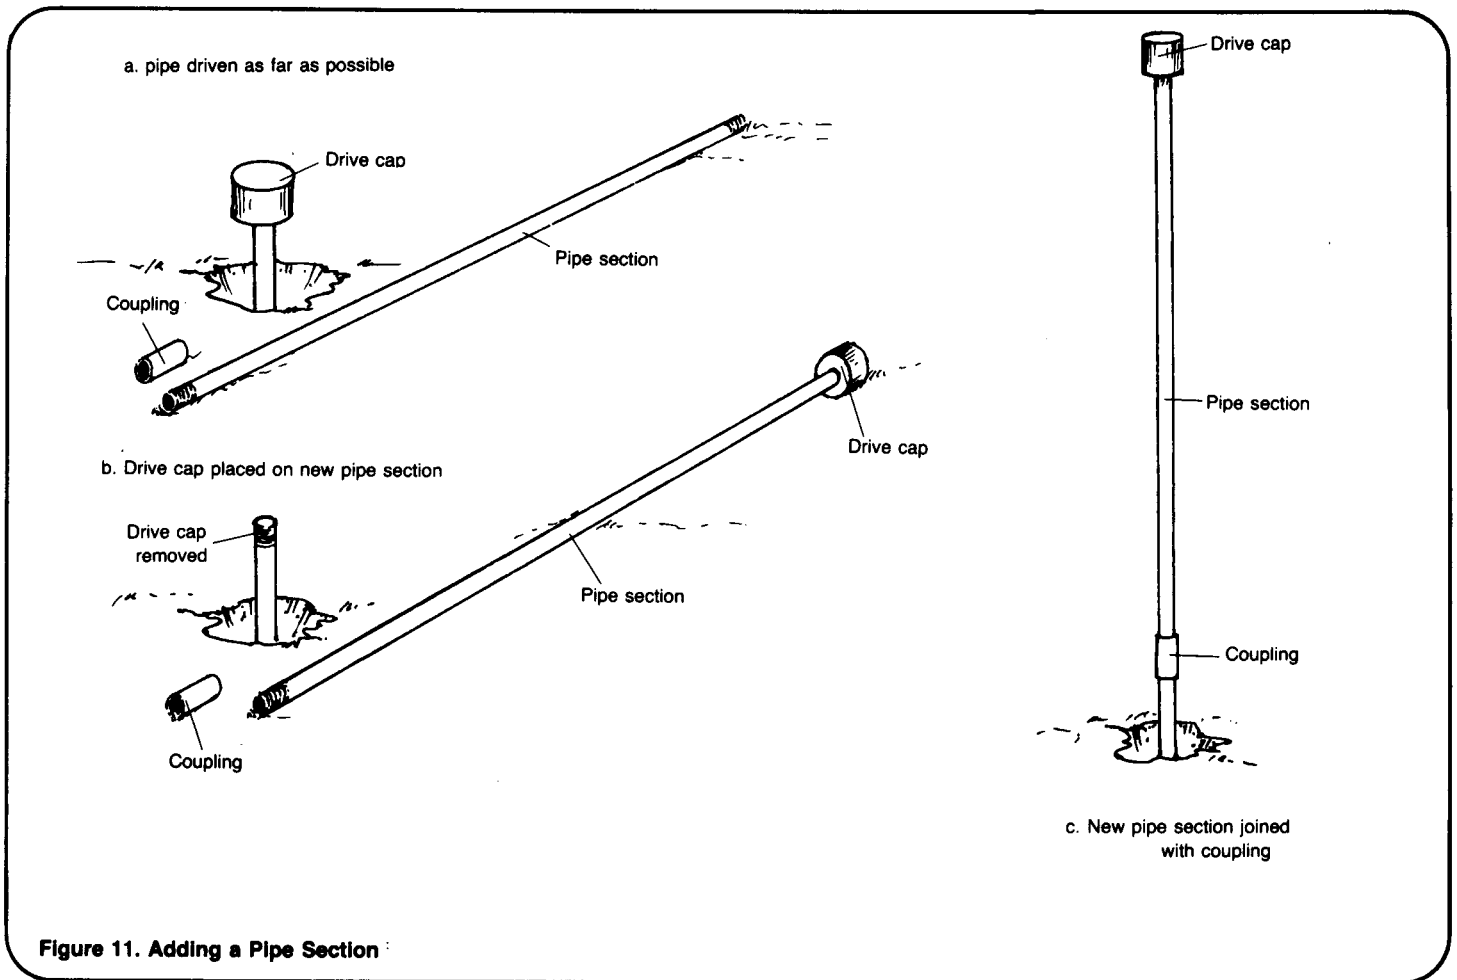

Figure 11. Adding a Pipe Section
7. Continue to drive the pipe. In the sledgehammer and weighted driver methods, the workers will eventually step down off the platform and drive while standing on the ground. When the pipe has been driven so far that further driving is impossible, add another section of pipe. See Figure 11.